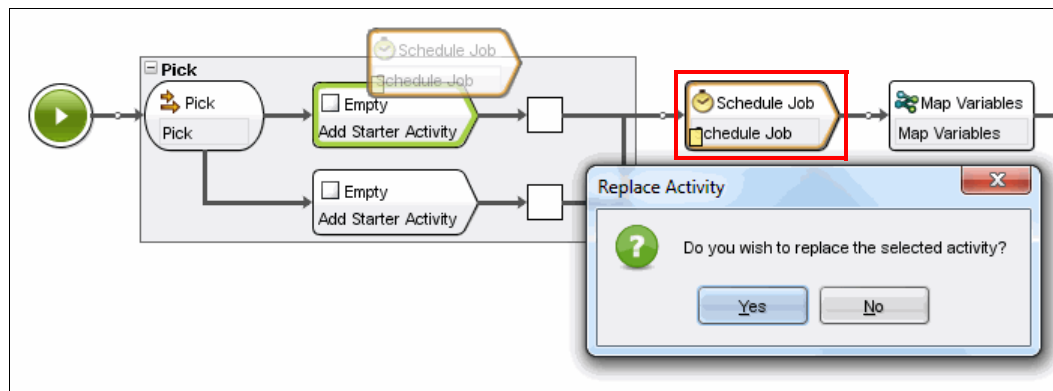

Figure 11-20 Moving the Schedule Job activity into the Pick group
4. Drag the Schedule Job activity in the orchestration to the uppermost Add Starter Activity of the Pick group, as shown in Figure 11-20. When the prompt displays, click **Yes** in the Replace Activity dialog.